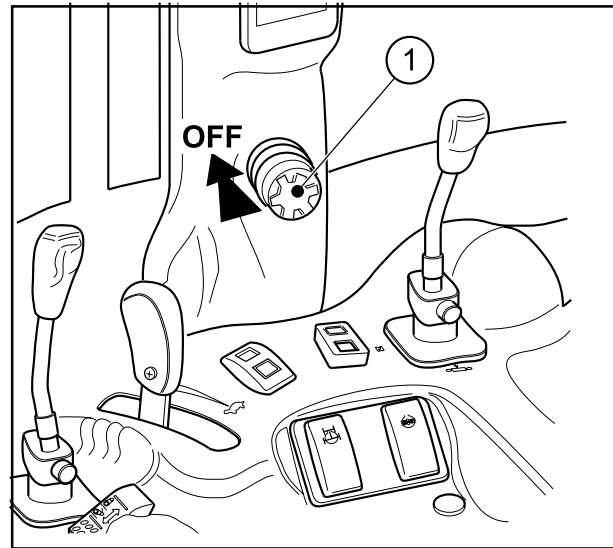
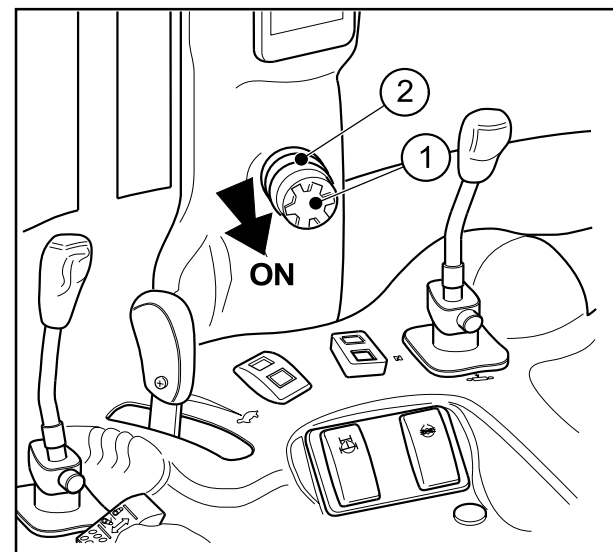

Fig. 4-28 - Disengagement
Fig. 4-29 - Engagement
The PTO is engaged by means of the switch (1- Fig.4-29).
Engage/disengage the front PTO (1 - Fig.4-28 and Fig.4-29) by the ON/OFF button switch with engine at idling speed.
To engage the PTO, release the switch (1) by pulling up the locking collar (2) (Fig.4-29).
Always shift the switch in the OFF disengaged position (Fig.4-28) after using the PTO or before starting the engine.
CAUTION: Disengage the PTO clutch (switch 1, Fig. 4-28) before switching between two speed ranges.
To operate the buttons, engage the PTO by means of the switch (1 - Fig. 4-29) and select the required speed with the PTO selector levers (2-3 - Fig. 4-30).